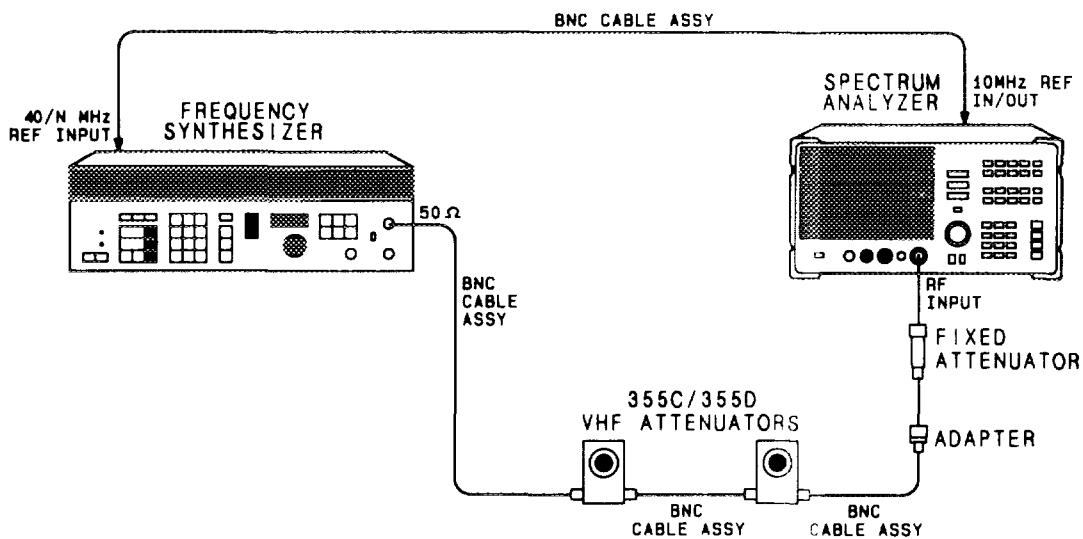

Figure 3-9. Scale Fidelity Test Setup
The 10 dB, 2 dB, and linear scales are tested for fidelity. A -10 dBm signal is displayed at the reference level for each scale. As the input signal level is decreased, the displayed signal level is compared to the reference level. The test also measures the incremental step errors. Figure 3-9 illustrates the test setup used for the test. The frequency synthesizer is phase-locked to the spectrum analyzer's 10 MHz reference.
1. Connect the equipment as shown in Figure 3-9. The HP 8562A/B provides the frequency reference for the HP 3335A.